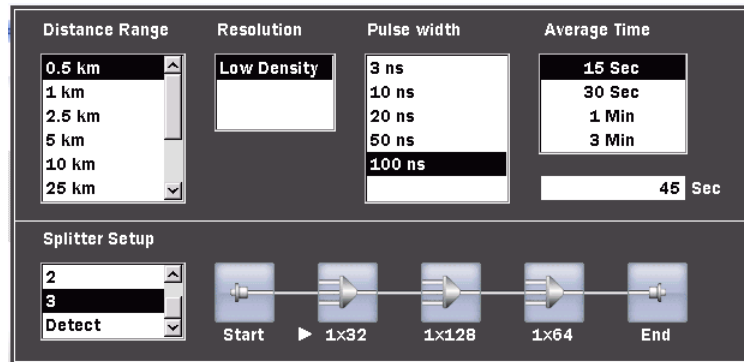

Figure 5-22: Range/Resolution/Pulse Width/Average Time/Splitter Setup Dialog box
1. Press **Test Parameters (f4)**, the Distance Range, Resolution, Pulse width, Average Time dialog and Splitter Setup box appears (see Figure 5-22 on page 5-56).